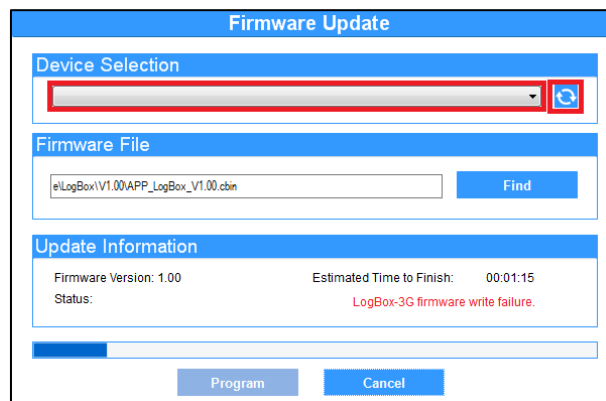

Fig. 52 – Firmware failure
- If **NXperience** has been closed and/or it is no longer possible to find the device on the update screen, as shown in **Fig. 52**, it is necessary to close the **NXperience**, turn off the **LogBox 3G** and reconnect the device to the USB interface for a new attempt.